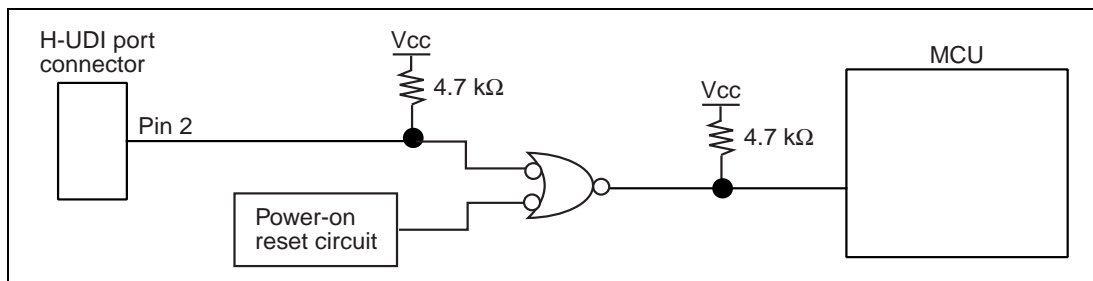

Figure 4.6 Connection of Pin ETRST#
5. **Pin ETRST# must be connected as shown in figure 4.6.**